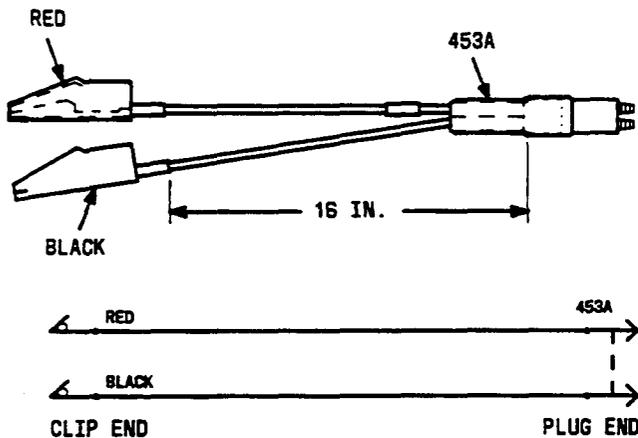

Figure 17—P2EF Test Cord
5.08 The P2EF test cord (Figure 17) is used to short the tip and ring or to ground the tip and/or ring of an individual cable pair by inserting the plug end into a pair of recessed test terminals on the 302-type connector.